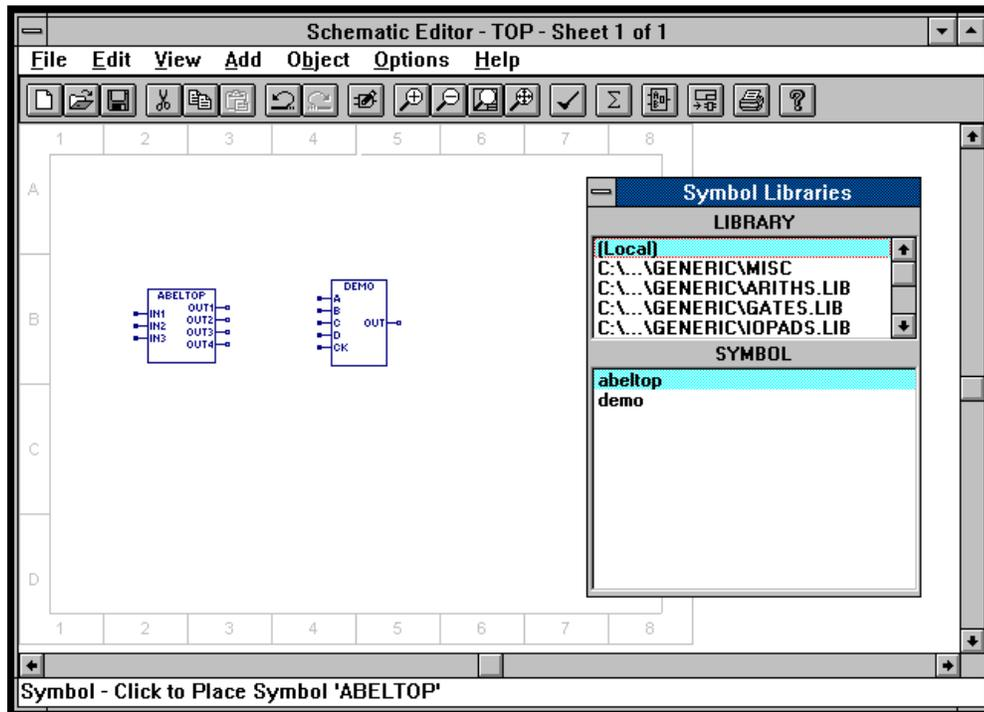

Figure 1-23. Adding Symbols from the Local Library
43. A symbol will be added to your local library and the symbol will be attached to your cursor. Place the symbol to the left of the demo symbol. Click with the right mouse button to display the Symbol Libraries dialog box (Figure 1-23). Note the abeltop symbol in the Local library. Close the dialog box.